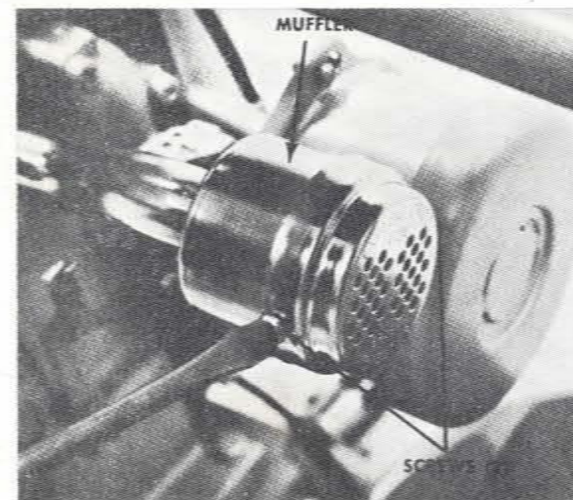

Figure 18
The spark arrester and muffler shown in Figures 18, 19 and 20 are part of the engine.
1. Figure 18 shows location of spark arrester. If spark arrester needs cleaning or replacing, just remove two (2) screws as shown in Figure 18.